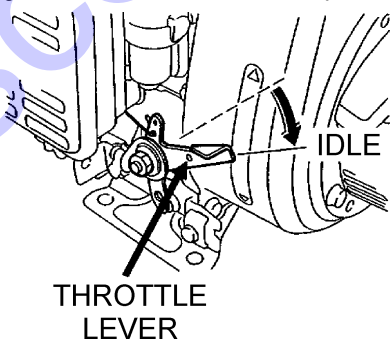

Figure 27. Throttle Lever (Idle Position)
1. Move the throttle lever to the **IDLE** position (Figure 27) and run the engine for three minutes at low speed.